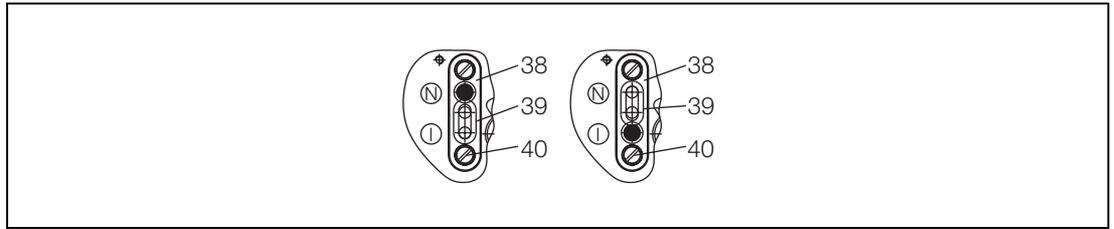
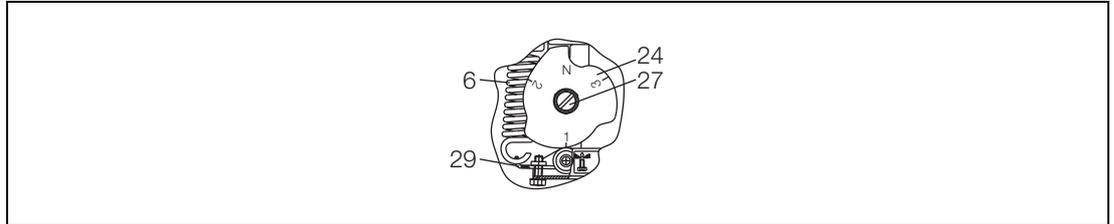

Fig. 7:
Fig. 8:
A cam disk (Item 24 in Fig. 8) inside the device and an air plate (Item 38 in Fig. 7) on the back are used for adjusting the positioner. Both sides of the cam disk are labeled. “N” on the front side means “normal” or direct, “I” stands for reverse. Analogously, the outlet of the air plate must be set to “N” or “I”. To change the cam disk side, first turn off the compressed air supply and remove the return spring (6) from the lever (29). Then undo the screw (27) and take out and turn the cam disk.
Three different characteristic curves are available for controlling the stroke. The appropriate characteristic is selected by using the cam disk (Item 24 in Fig. 8) with three different segments. Key:
The output range can be changed to a split range by replacing the spring (Item 6 in Fig. 8). The springs are color-coded for easy identification. The table below shows the individual color codes and the respective applications.